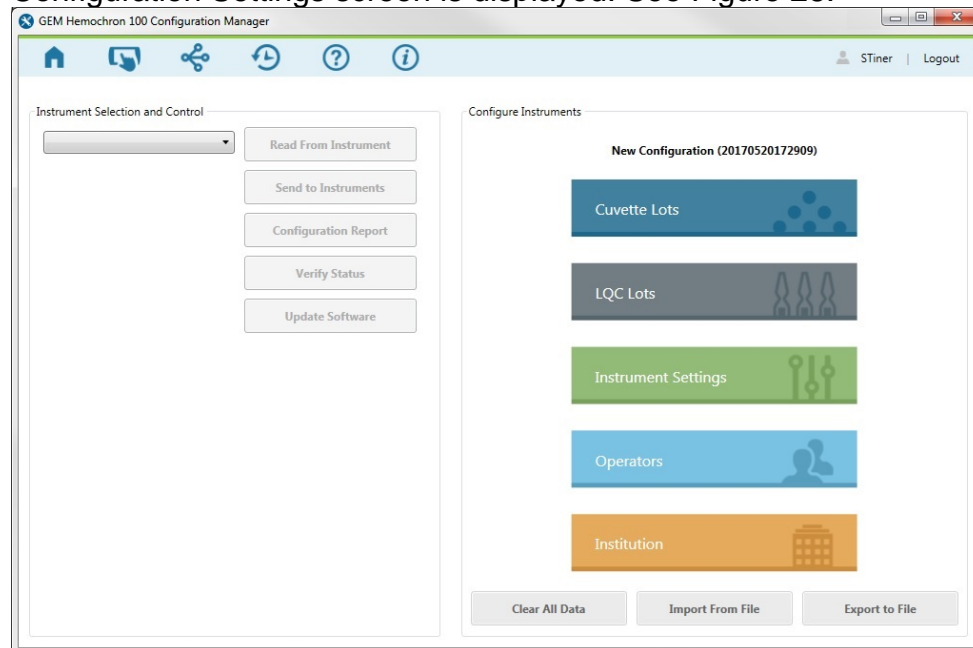

Figure 27 – Configuration Manager: The Configuration Settings screen
- **Admin** – If a user logs in as an Admin, a screen for the Administrative Settings part of the application is displayed. See Figure 27. The first user who logs in to Configuration Manager must log in as an Admin using the factory default Admin account (*admin/000*). When they log in, they are prompted to change the password.
When a user logs in to Configuration Manager as an Admin, the **Administrative Settings** screen is displayed. See Figure 27.